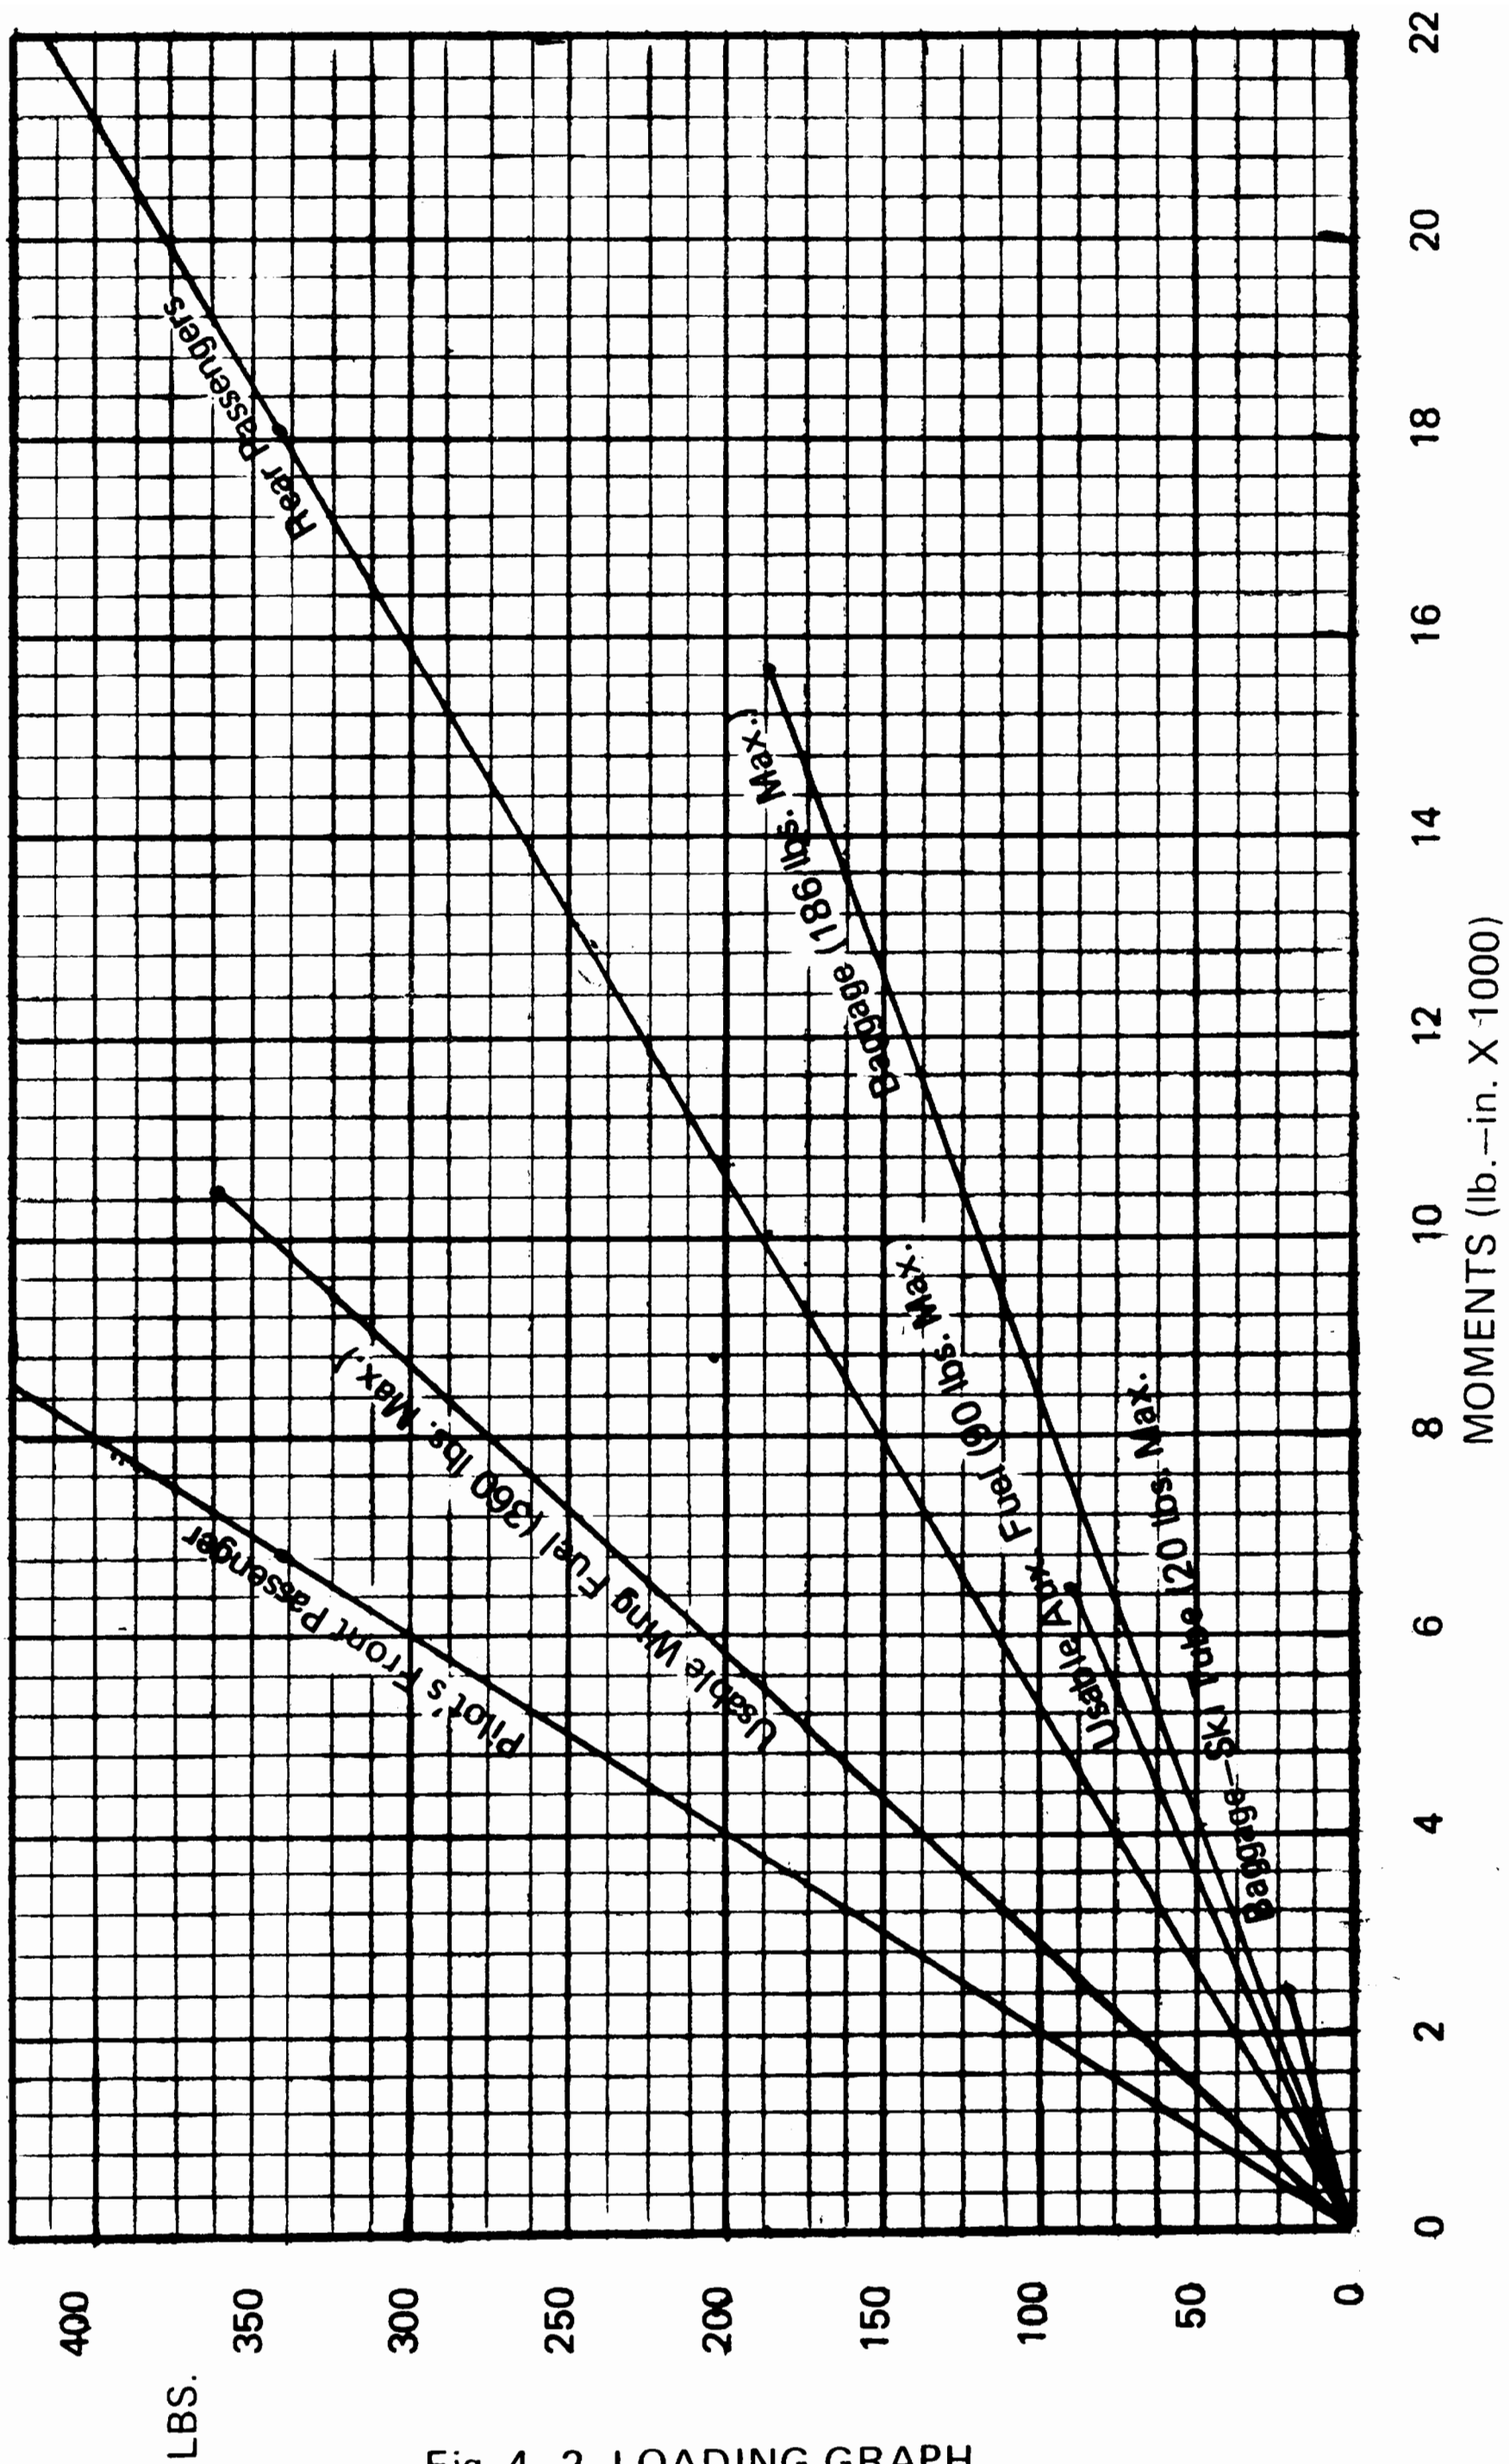

Fig. 4-2 LOADING GRAPH
3. Using the loading graph, Figure 4-2, determine the weight and the moment of the following items and enter these figures on the sample loading problem.